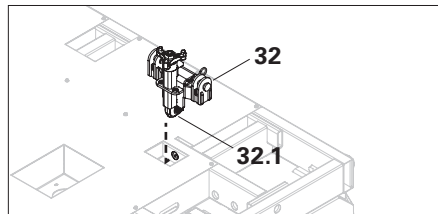

Fig. B2.02
2. Position the Connector RS MXH (32) on the panel strut (22) so that the Hook Tie (32.1) is linked into a connecting hole. (Fig. B2.02)